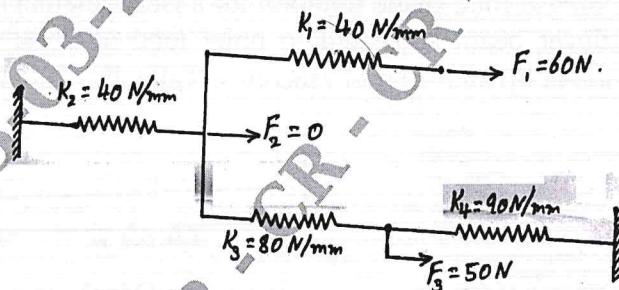

Fig Q1(c)
c. For the spring system show in Fig Q1(c), using the principle of minimum potential energy. Determine the nodal Displacements.